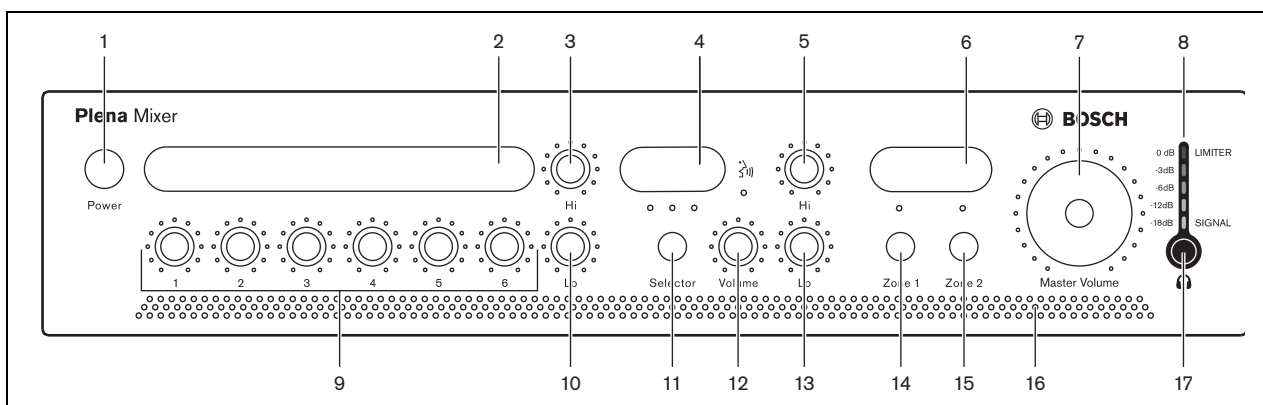

figure 5.2: Front panel
- 2 Set the power button (1) on the front of the unit to Off - popped out (see figure 5.2).
Set the power button (1) on the front of the unit to Off - popped out (see figure 5.2).
Users can create custom labels for the: microphone/line inputs, description of the music sources, and audio output zones 1 and 2. These labels can be attached to the mixer at position numbers 2, 4, and 6 (see figure 5.2). Colored pins can also be inserted at various positions around the dial controls to indicate the favorite settings for a particular application.
Use the Hi (high) and Lo (low) tone controls (see figure 5.2, numbers 3 and 10) to collectively change the tone of microphone/line inputs 1 through 6.
Use the Hi (high) and Lo (low) tone controls (see figure 5.2, numbers 5 and 13) to change the tone of the selected music source.